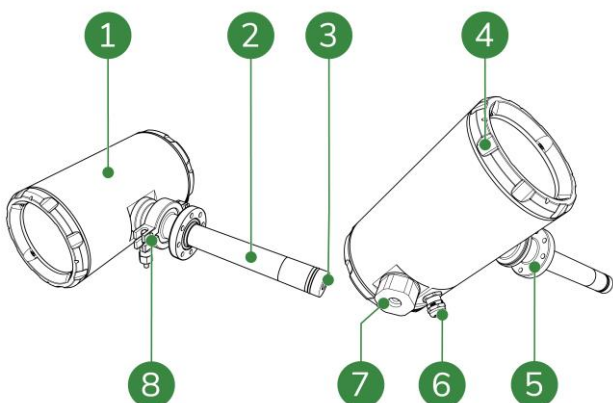
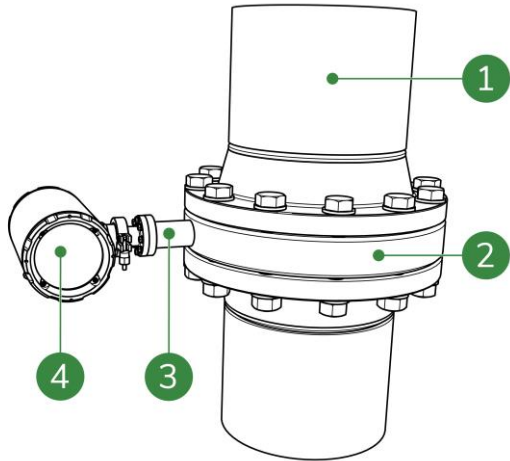

Figure 3-6: Components transmitter and sensor
Figure 3-8: Example of a SDM ECO integrated within a vertical pipe system
The sensor surface (Figure 3-6, pos. 3) connects to components within the transmitter (Figure 3-6, pos. 1) for processing measurements.
The tri-clamp (Figure 3-6, pos. 8) is pre-assembled and connects the sensor (Figure 3-6, pos. 2) to the transmitter (Figure 3-6, pos. 1).
The sensor (Figure 3-6, pos. 2) has a mounting flange (Figure 3-6, pos. 5) for mounting the SDM and sensor onto a pipe integration system (not shown).
The transmitter (Figure 3-6, pos. 1) houses a PoE ethernet cable connection, a USB connection and sensitive components on the inside.
All pipe integration systems have an adapter with a receiving flange. To mount the SDM ECO, the sensor (Figure 3-6, pos. 2) slides into the adapter (Figure 3-8, pos. 3) after which the mounting flange is mounted onto the receiving flange of the adapter.
When the SDM (Figure 3-8, pos. 4) is correctly mounted onto the receiving adapter, the sensor surface will lay flush with the inner diameter of the connected pipes. This ensures reliable and consistent measurements.